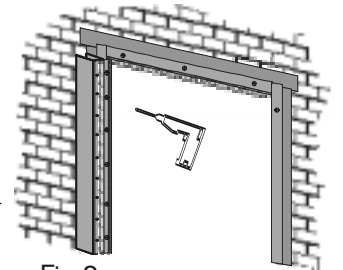

Fig.2
3) Measure from header to floor on hinge side. Deduct 2 1/2", then cut hinge off at the bottom. (2 1/2" will allow the bug channel to fit up under the hinge so the bug channel will fit from z-bar to z-bar.) Fasten the hinge 1/8" - 3/16" down from the header - approximately 3/16" from the felt. Use slotted holes at top and bottom, then adjust hinge to close against the felt without binding. Fasten off rest of hinge screws. (fig.2)